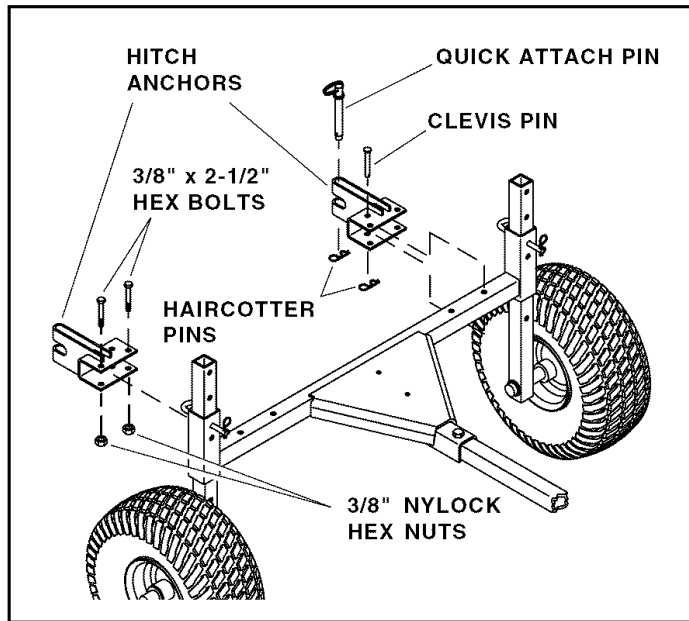

FIGURE 4
5. Install the hitch anchors onto the ends of the trailer frame. The clevis pin hole should be to the inside. Secure with four 3/8" x 2-1/2" hex bolts and 3/8" Nylock hex nuts. Tighten the nuts only until they are just snug. Slide each hitch anchor along the frame to align with the outer hole for category 1 implements or the inner hole are for category 0 implements. Secure each hitch anchor with a clevis pin and haircotter pin. See figure 4.
6. Install a quick attach pin in the slot of each hitch anchor. Secure with a haircotter pin. See figure 4.